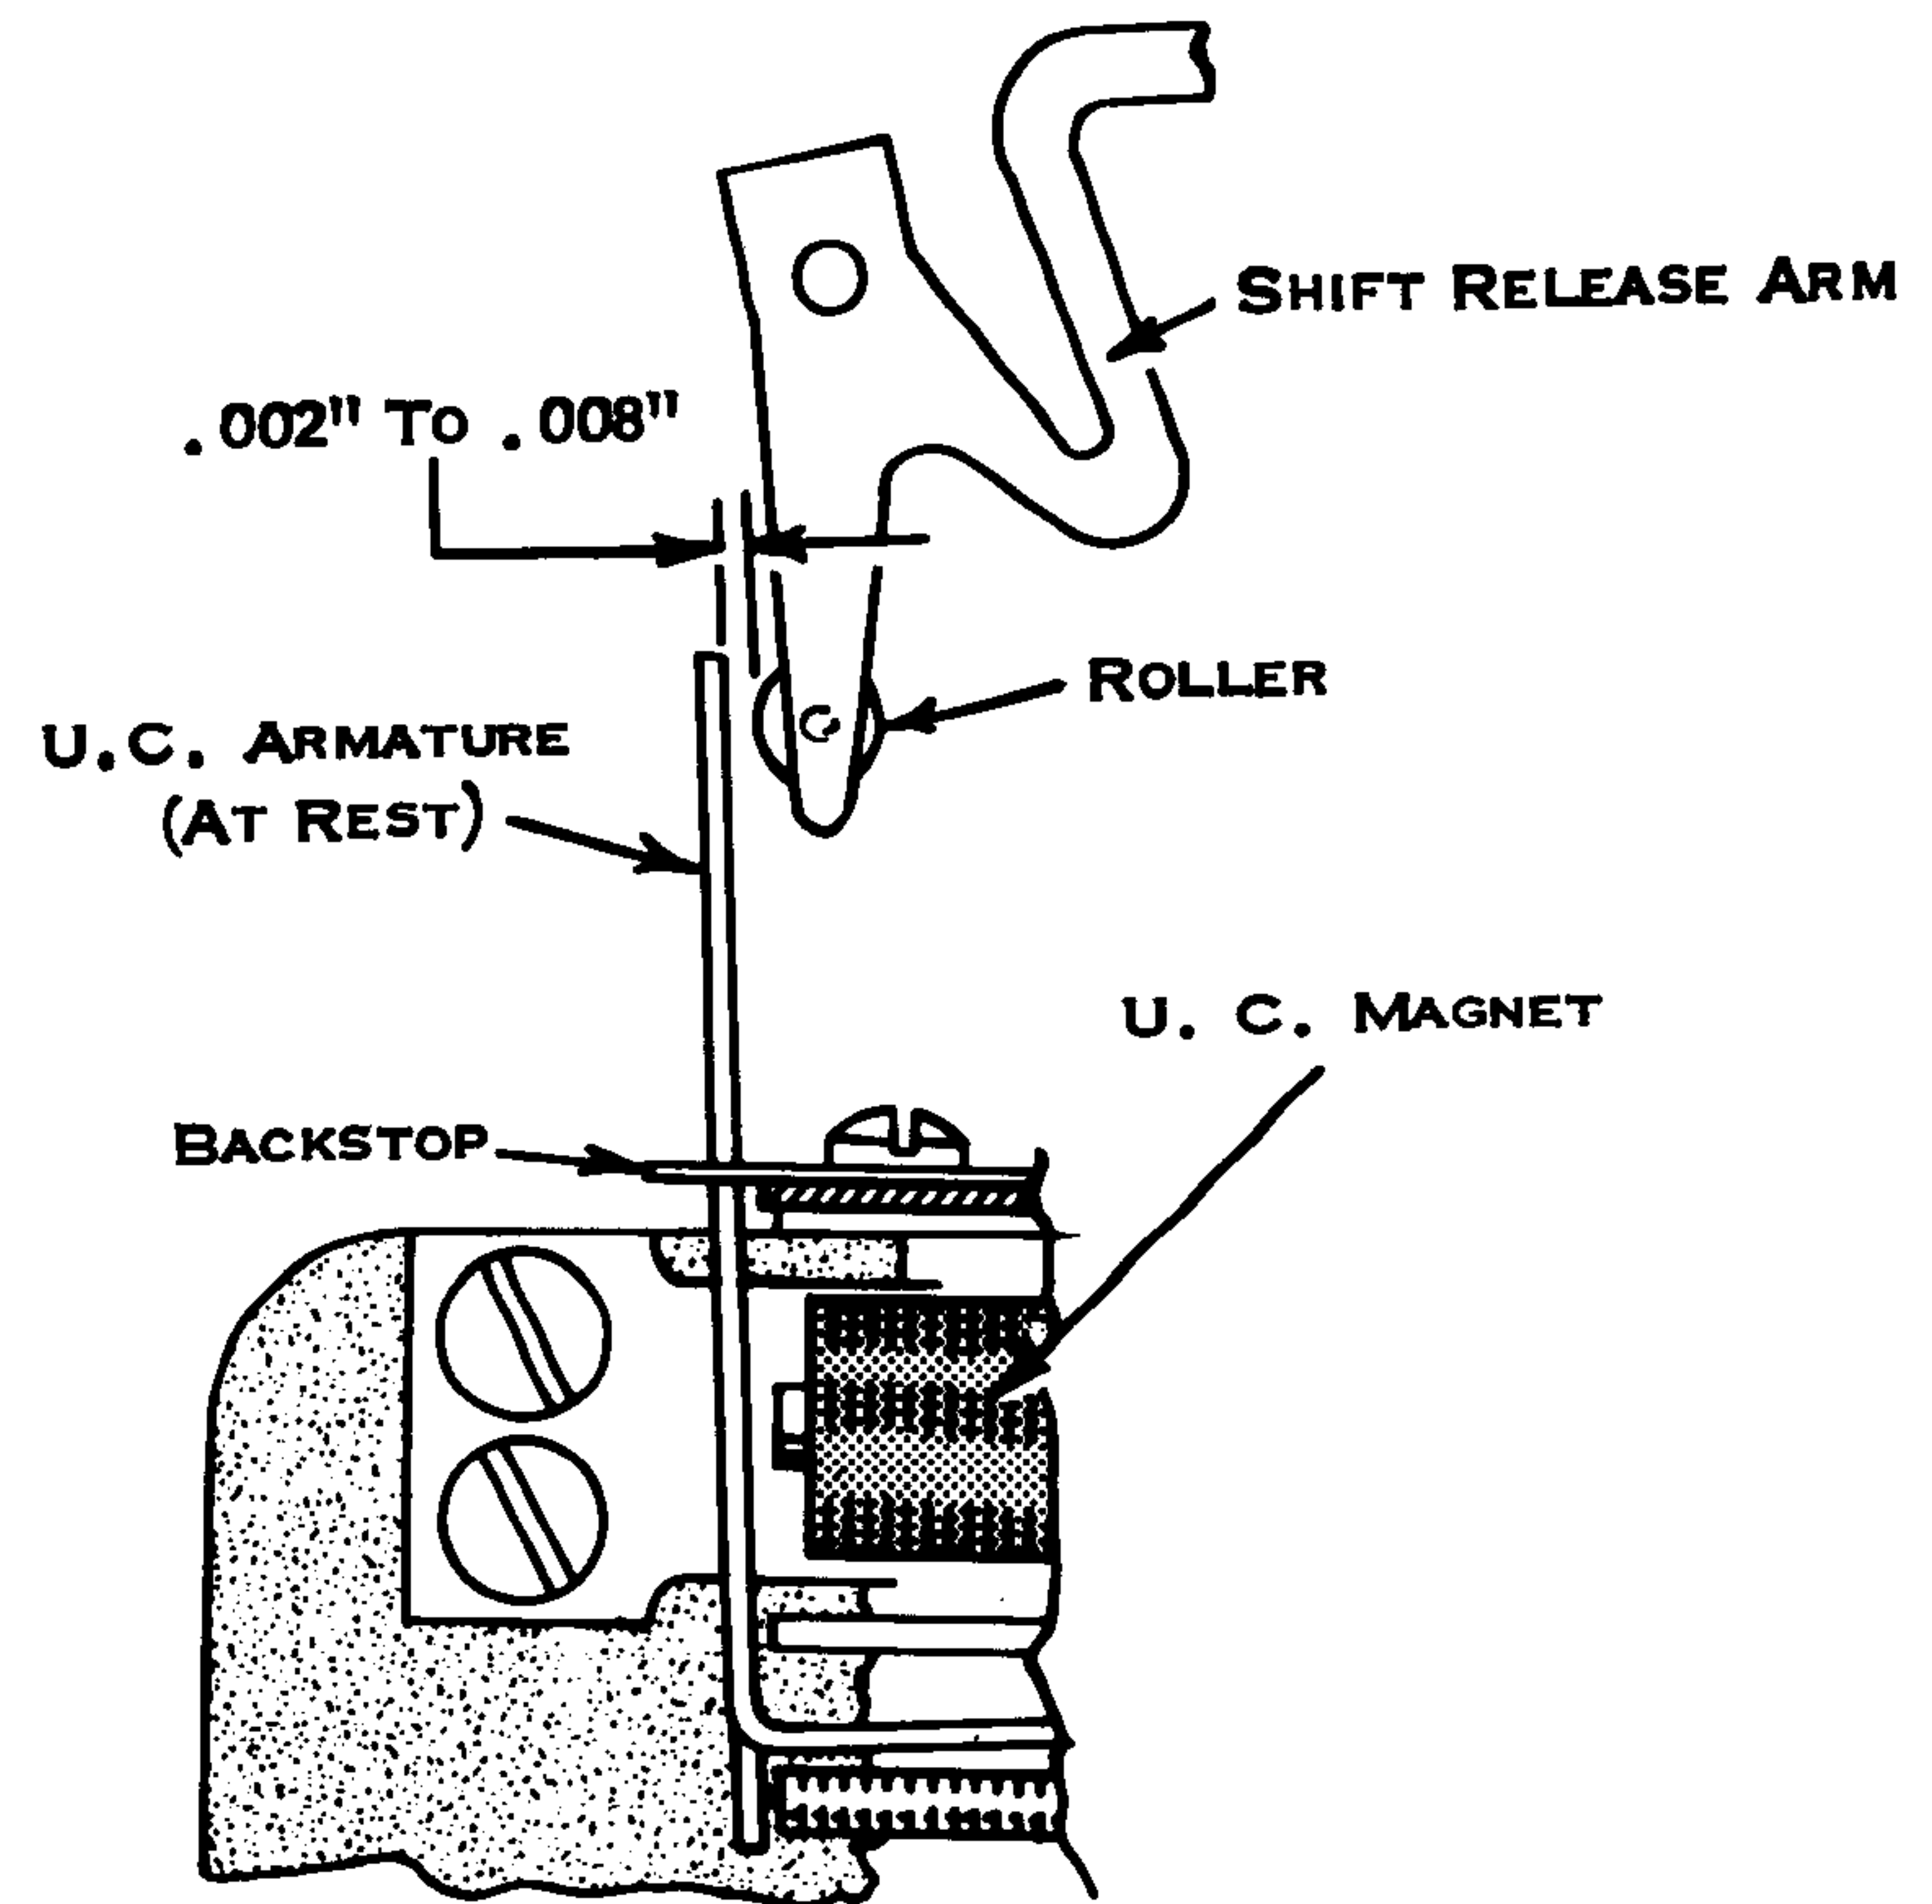

Figure 100. U.C. Armature Backstop
7. UC Armature Backstop, 15" Machine (Fig. 100) - Position (armature at rest) so that the UC armature clears the release arm roller by .002" to .008".